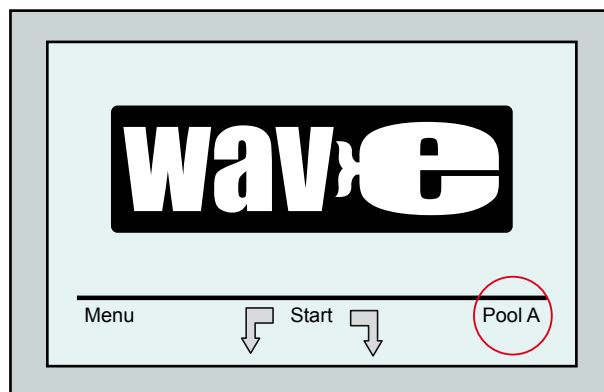

Figure 8: *Wave* screen showing Pool A as default setting
3. Switch on the power supply. The MMI's *Wave* screen (figure 8) opens in the home window.
1. Go to the *Wave* screen. "Pool A" is displayed as the currently defined setting as shown in Figure 8.
1. From the *Wave* screen, press the currently displayed pool setting at the right side of the screen (see Figure 8) to open the *Pool Profile* screen.